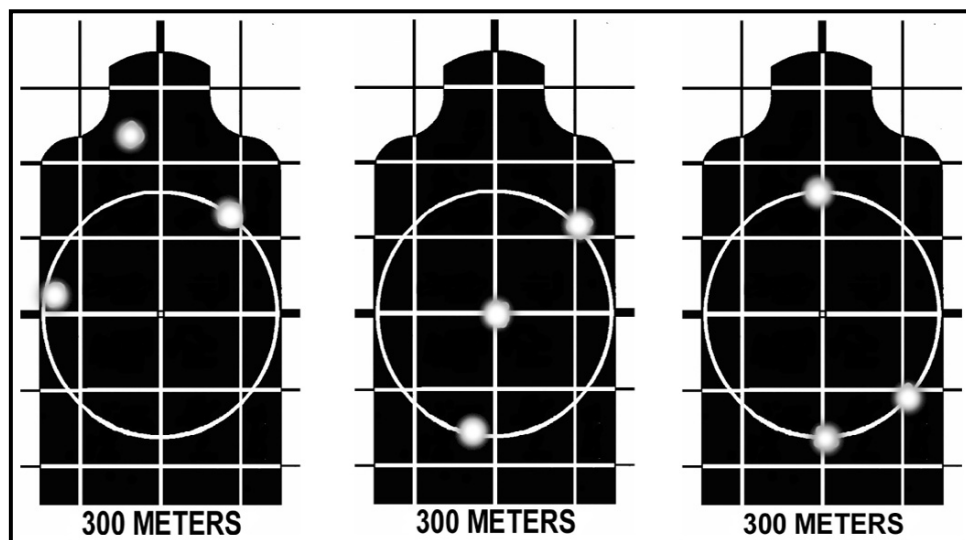

Figure 5-8. Shot groups indicate considerable shooting error.
(4) **4- to 5-Centimeter Shot Groups.** The targets shown in Figure 5-8 represent unacceptable firing performance. A better firing performance should be expected, and the instructor-trainer should ensure the soldier is properly applying the four marksmanship fundamentals. He should explain that this shot group size is not due to weapon or ammunition performance. The placement of shots in these groups (about 4 to 5 centimeters apart on the target) reflects considerable shooting error. Any of these three shot groups could have been a change in position, sight picture, breathing, trigger squeeze or an erratic round. Firers with these shot groups should receive dry-fire training to help correct firing problems. (See Appendix A for more information.)